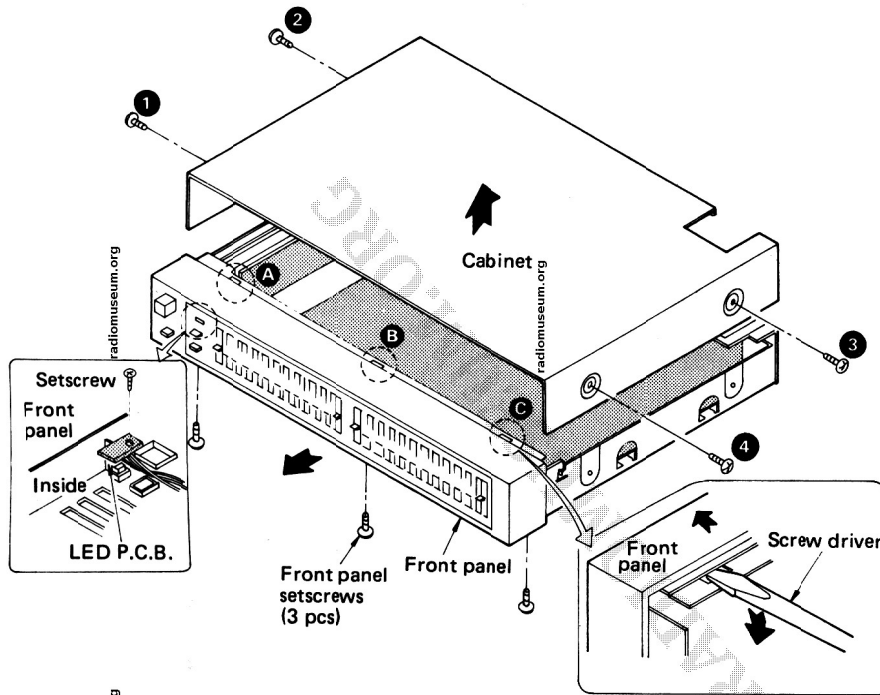

Fig. 1
1. Remove the setscrew (Fig. 1: ① ~ ④), and then the cabinet can be removed.